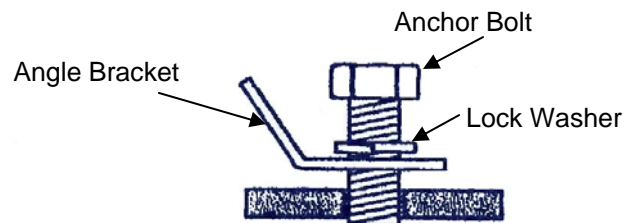

Figure 1
- If the vehicle is equipped with pre-threaded seatbelt fastening holes and the seat is mounted in the original location. Attach the angle brackets to these holes as shown in Figure 1 below.